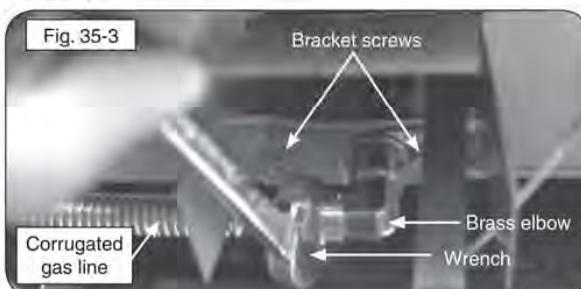

Fig. 35-3
4. Locate the smoker drawer orifice bracket behind the face on the right side and remove the compression fitting that connects the corrugated aluminum gas line to the back of the brass elbow projecting out from the bracket using a $\frac{5}{8}$ " box wrench (Fig. 35-3).